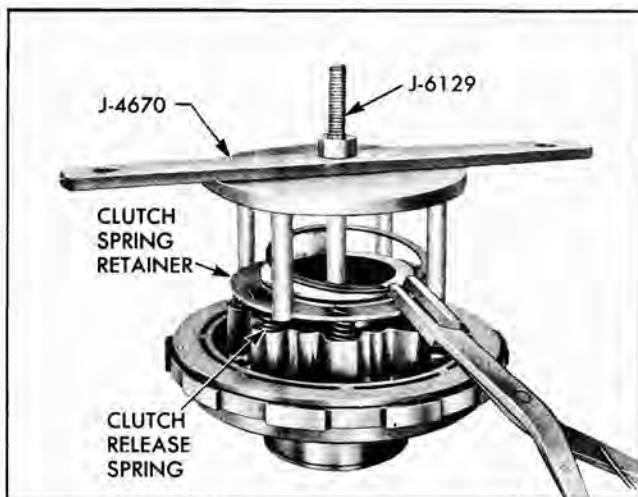

Fig. 77 Removing Rear Unit Clutch Spring Snap Ring
of spring retainer and start nut on stud J-6129 (Fig. 77). NOTE: If compressor J-4670 has no hole in middle, drill a $\frac{7}{16}$ " hole so that stud J-6129 can be inserted through it.
- d. Remove snap ring (Fig. 77).